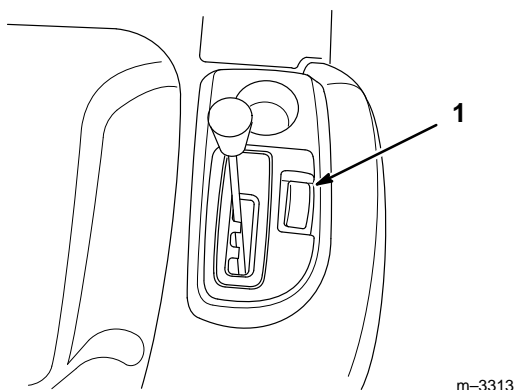

Figure 23
The cruise control is a switch (Fig. 23) on the right fender that maintains a set traction control position without foot pressure. The cruise control only operates when moving forward.
1. Begin driving the tractor; refer to Driving Forward or Backward, page 19. While holding your foot steady on the traction control pedal, push the cruise control switch (Fig. 23) to the “SET” position. This locks the traction control in position and your foot can then be removed from the traction control. A constant pedal position will be maintained.